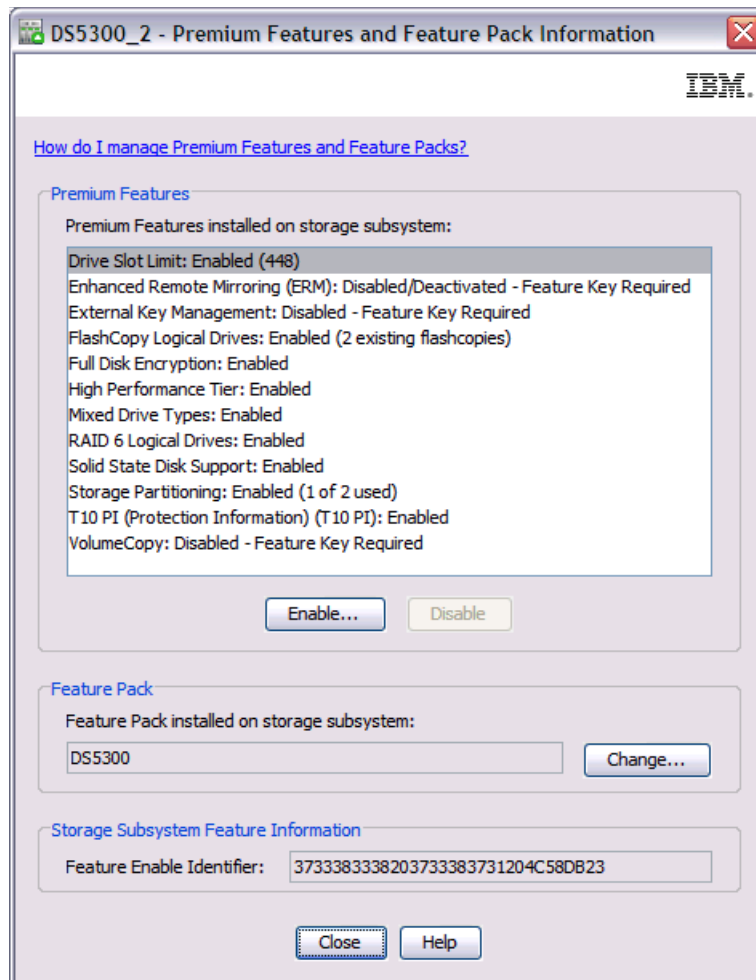

Figure 5-33 List of premium features
1. Select **Storage Subsystem** → **Premium Features** from the Subsystem Management window. The Premium Features window opens and shows a list of enabled premium features (see Figure 5-33).